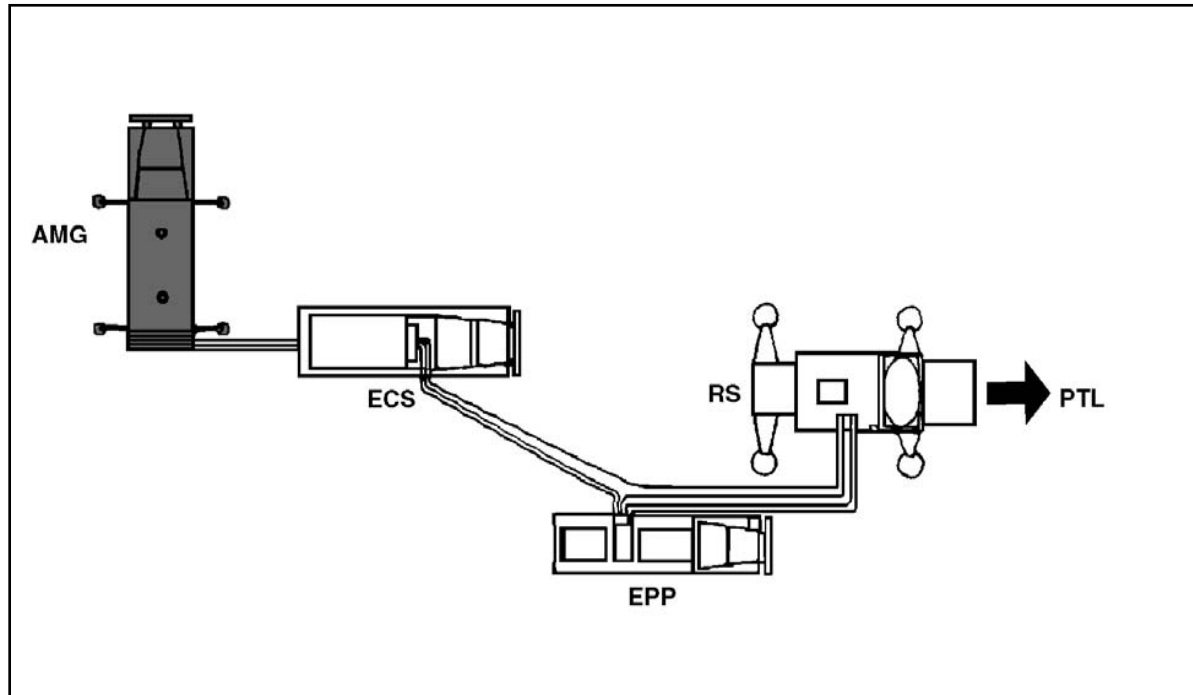

Figure 2-4. Emplacement of AMG with ECS
ILLUSTRATIONS: Figures 2-4 through 2-11.
(1) Using a diagram, Figures 2-4 through 2-11, a sand table, or a simple sketch in the dirt, show the crew members how the AMG should be emplaced.
(2) Tell the crew members what their duties are in the drill.
(3) Read the performance measures of the drill to the crew.
(4) Have crew members explain their performance measures to ensure that they understand them.